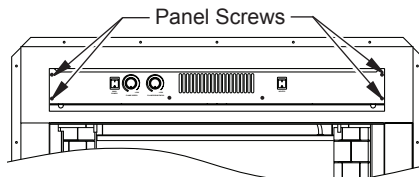
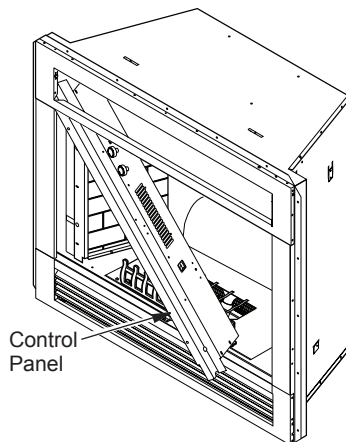

Figure 31 - Panel Screws Location
Figure 32 - Removing Control Panel
8. Remove 4 screws from control panel (see Figure 31). Tilt entire control assembly forward to clear lower flange at upper door rail and slide assembly down through space between the front face and firebox mount (see detail Figure 32).
9. Angle control panel out through opening (see Figure 32).